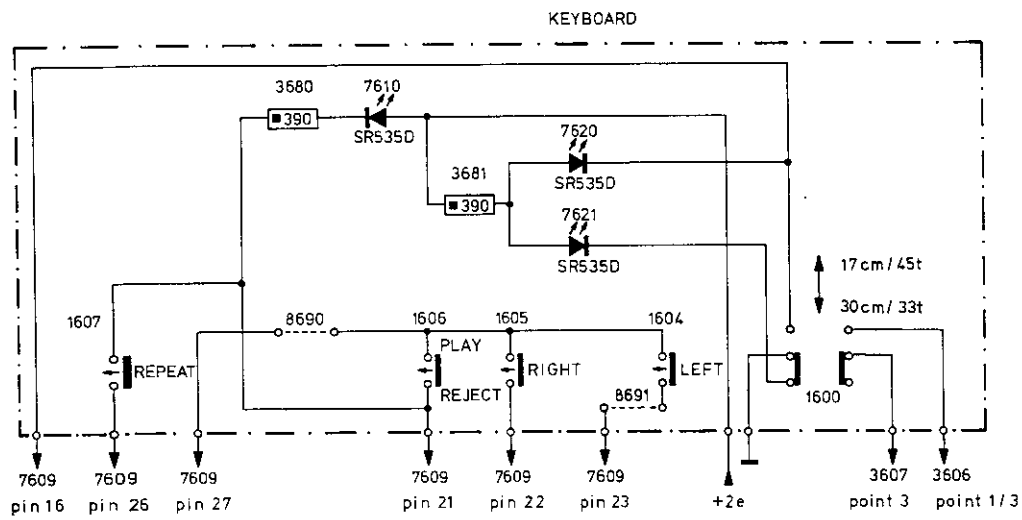

Fig. 1
2. Keyboard panel (see figures 1 and 2).